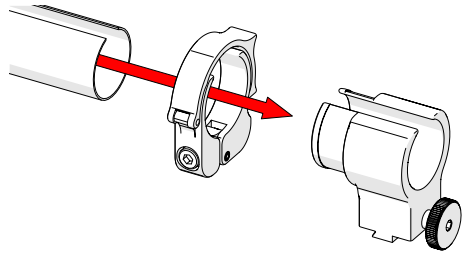

Fig. 84 - Slide tube around mount
2. Slide the clamp around the tube first and then slide the tube around the outside of the cable management dovetail mount (Fig. 84). Align the zipper opening and the cable management dovetail mount opening.